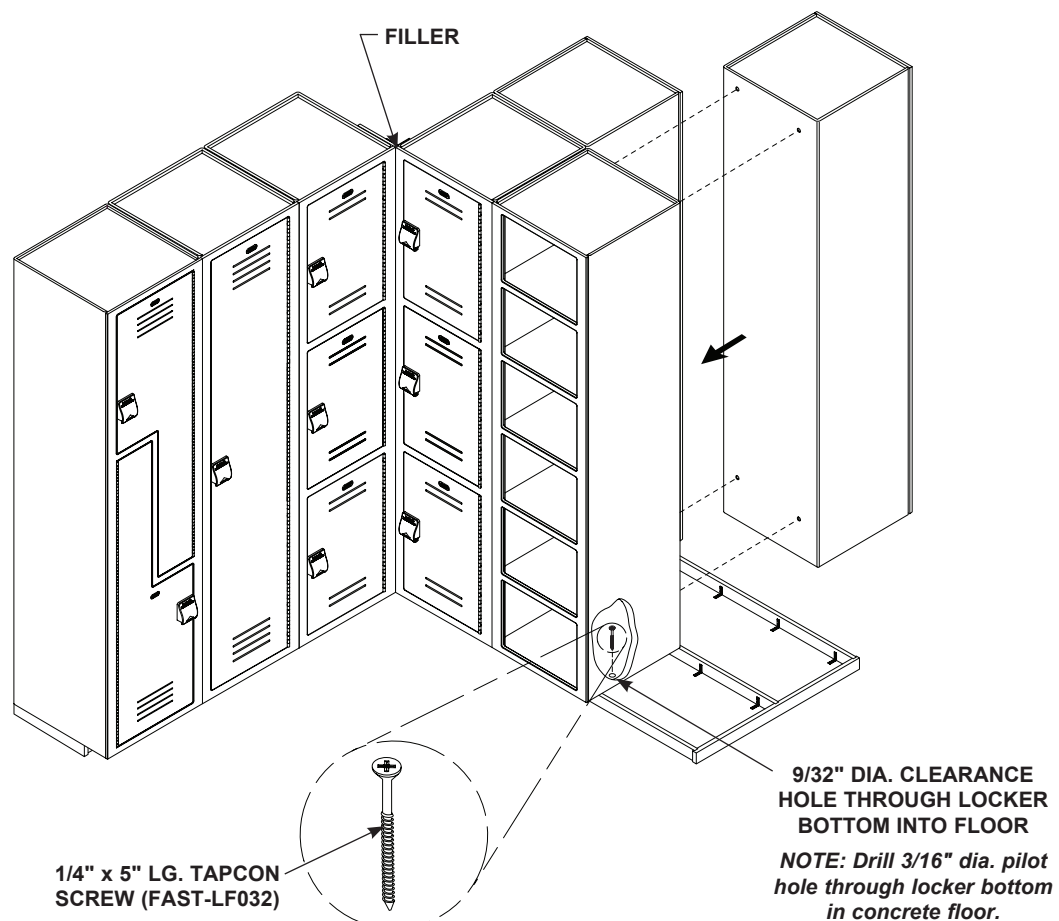

Figure 9
4. Drill four 9/32" holes through one adjoining locker back (see Figure 9). Fasten the lockers together using the #10-24 male and #10-24 x 3/4" female sex bolts provided.